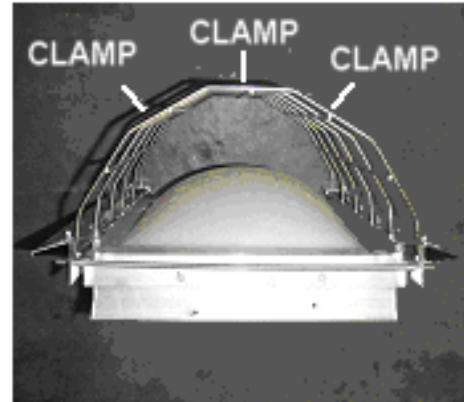

figure 2
8. On units utilizing two or more screens per unit, lock screens together using the enclosed hose clamps (see locations on Fig 2). Recheck snugness of all nuts. On units longer than 105", or with two or more retaining rail pieces per side, attachment of the rail to the skylight frame with self-drilling fasteners is required.